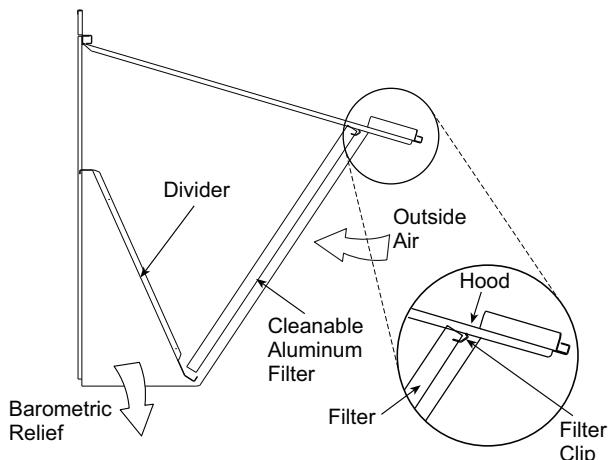

Fig. 13 – Economizer Filter Installation
5. Open the filter clips, which are located underneath the hood top. Insert the aluminum filter into the bottom filter rack (hood divider). Push the filter into position past the open filter clips. Close the filter clips to lock the filter into place. See Fig. 13.